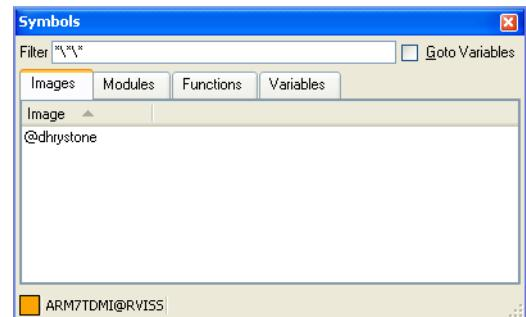

Figure 5-10 Symbols view
4. Select **Symbols** from the **View** menu to display the Symbols view. Figure 5-10 shows an example: